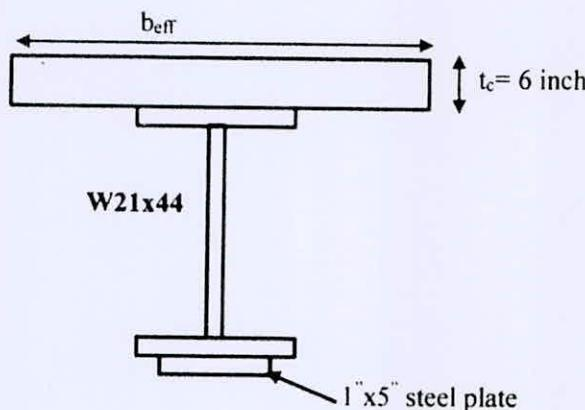

Fig. 2
(b) Determine the midspan deflection of the fully composite beam shown in Fig. 2, for unshored construction. This is an interior beam with a simply supported span of 25 ft; c/c spacing of the beam is 8 ft. Calculate the total vertical deflection for composite as well as for precomposite stage and compare the values with the allowable limits for total deflection (i.e. L/240) specified in AISC guide. The calculated uniformly distributed service loads on the beam is 0.65 k/ft for self weight of slab and beam; 0.1 k/ft for construction live load; 0.2 k/ft for floor finish; 0.45 k/ft for partition walls and 1.1 k/ft floor live load. (18)